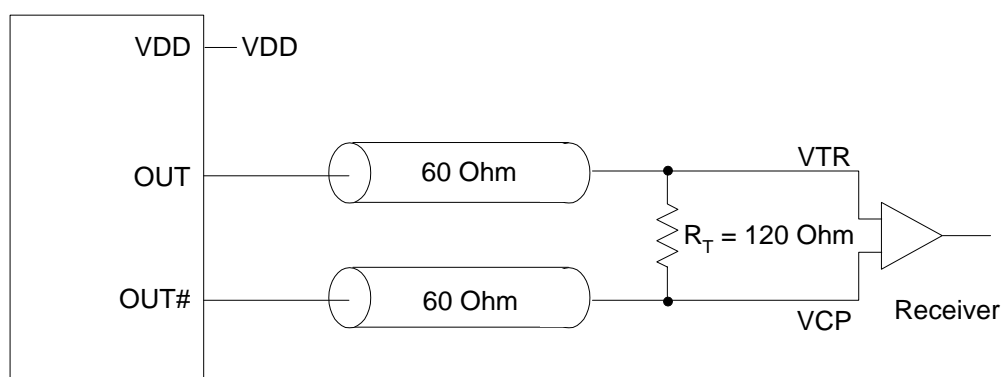

Figure 1. Differential Signal Using Direct Termination Resistor
- Differential input signal voltage specifies the differential voltage $|V_{TR} - V_{CP}|$ required for switching, where V_{TR} is the true input level and V_{CP} is the complementary input level. See Figure 1.
- For load conditions see Figure 1.
- The value of VOC is expected to be $|V_{TR} + V_{CP}|/2$. In case of each clock directly terminated by a 120Ω resistor. See Figure 1.
- All outputs switching loaded with 16 pF in 60Ω environment. See Figure 1.
10. All differential input and output terminals are terminated with 120Ω/16 pF as shown in *Figure 1*.